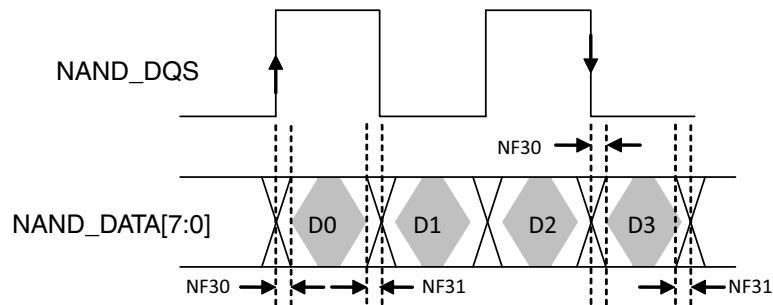

Figure 33. NAND_DQS/NAND_DQ Read Valid Window
For DDR Source sync mode, Figure 33 shows the timing diagram of NAND_DQS/NAND_DATAxx read valid window. The typical value of tDQSQ is 0.85 ns (max) and 1 ns (max) for tQHS at 200 MB/s. GPMI will sample NAND_DATA[7:0] at both rising and falling edge of a delayed NAND_DQS signal, which can be provided by an internal DPLL. The delay value can be controlled by GPMI register GPMI_READ_DDR_DLL_CTRL.SLV_DLY_TARGET (see the GPMI chapter of the i.MX 6Solo/6DualLite reference manual). Generally, the typical delay value of this register is equal to 0x7 which means 1/4 clock cycle delay expected. But if the board delay is big enough and cannot be ignored, the delay value should be made larger to compensate the board delay.
- ⁷ Shown in Figure 33, NAND_DQS/NAND_DQ Read Valid Window.
For DDR Toggle mode, Figure 33 shows the timing diagram of NAND_DQS/NAND_DATA_{xx} read valid window. The typical value of tDQSQ is 1.4 ns (max) and 1.4 ns (max) for tQHS at 133 MB/s. GPMI will sample NAND_DATA[7:0] at both rising and falling edge of an delayed NAND_DQS signal, which is provided by an internal DPLL. The delay value of this register can be controlled by GPMI register GPMI_READ_DDR_DLL_CTRL.SLV_DLY_TARGET (see the GPMI chapter of the i.MX 6Solo/6DualLite reference manual). Generally, the typical delay value is equal to 0x7 which means 1/4 clock cycle delay expected. But if the board delay is big enough and cannot be ignored, the delay value should be made larger to compensate the board delay.